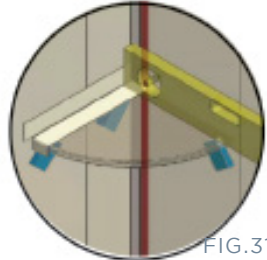

FIG.31
- Place the shelf in position to confirm that it is level. If required, adjust the stabiliser blocks to suit. Optional -apply insulation/gaffa tape to shelf/wall to prevent bleeding of the adhesive onto the wall or shelf.(FIG 31).